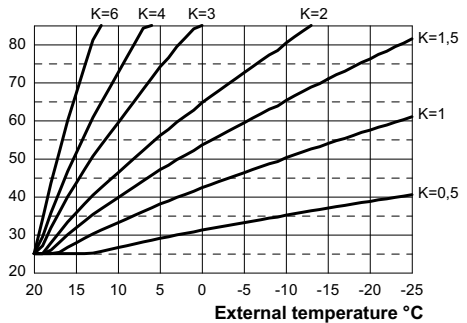

Fig. 7.15
If the boiler is **EQUIPPED** with the remote control (optional) refer to Fig. 7.15. In this case K setting must be done from the remote control.
When installing the external probe it is necessary to set this parameter based on the efficiency of the heating plant in order to optimise the flow temperature (Fig. 7.15).
E.g. In order to have a flow temperature at the heating plant of 60°C with an external temperature of -5°C, set a K at 1.5 (sectioned line in Fig. 7.15).
- Using keys 16 or 17 it is possible to change the value of parameter 15 from a minimum of **01** to a maximum of **60** based on the selected bend of the K coefficient in Fig. 7.15 (the value read on the display corresponds to K coefficients decimal values).